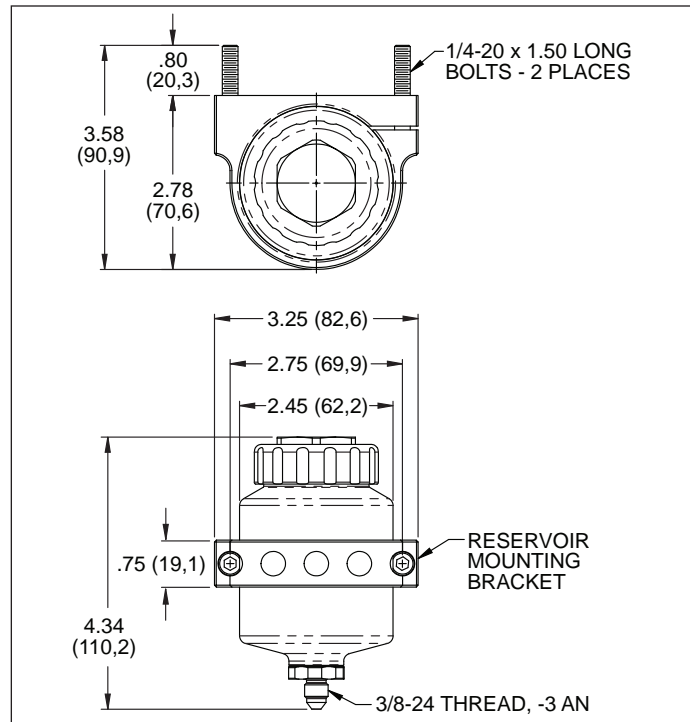

Figure 2. Part Number 260-12697
- Part number 260-12697, Figure 2 is a remote mount billet aluminum reservoir designed specifically to mount away from the master cylinder body using the supplied mounting bracket. Connection to the master cylinder is via the 3/8-24 thread -3 AN fluid fitting and a -3 AN flexline.